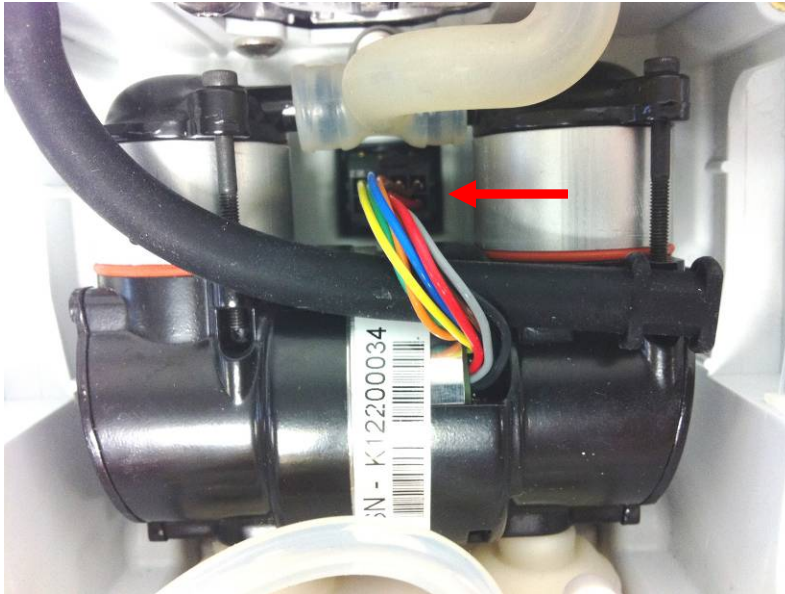

Figure 6: Compressor cable connector
2. Disconnect the compressor cable from the motherboard using pliers to push down on the release clip while pulling on the cable housing (Figure 6). *Do not pull on the compressor wires.*